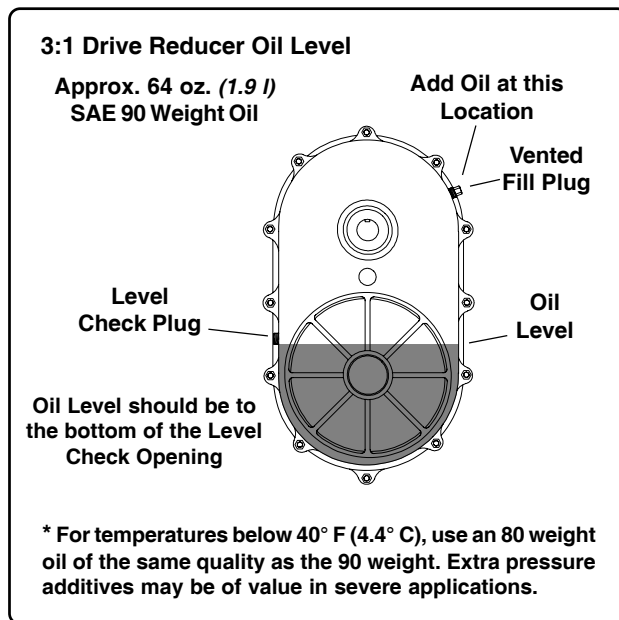

FIG. 4
1. With reducer in the upright position remove the vented fill plug and the level check plug from the reducer housing (See Fig. 4).